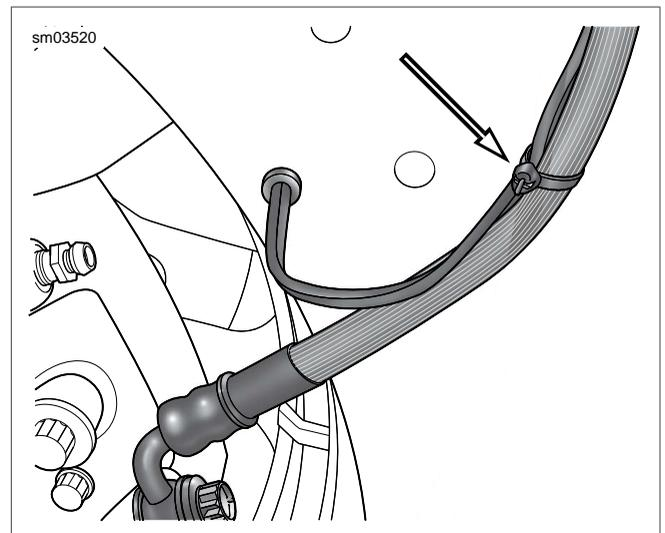

Figure 8-42. Capture Brake Hose and Front Fender Tip Lamp Wires
15. Install **new** cable strap to secure front fender tip lamp wires to brake caliper hose. See Figure 8-42.